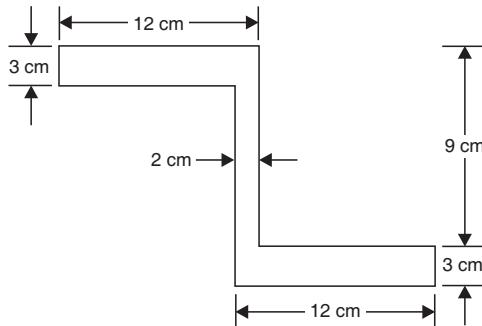

Fig. 8.36
5. Determine the moment of inertia of the Z-section in Fig. 8.36 about  $XX$  and  $YY$  axes, where  $XX$  and  $YY$  are the axes passing through the centroid of the figure.